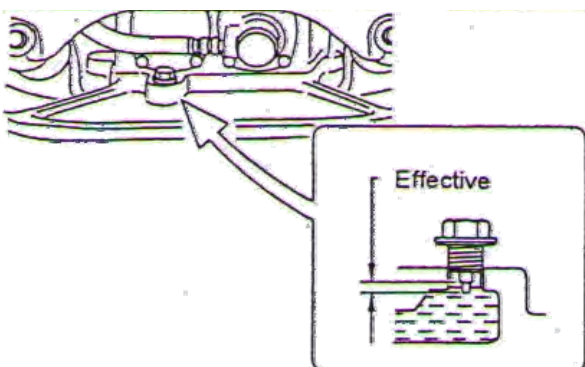

Fig.1
5. Remove the oil plug in the excitor base and check the oil level. Make sure the compactor is level when checking. The oil level should be up to the oil plug. Every month or every 200 hours of operation, replace the oil. (Fig.1)